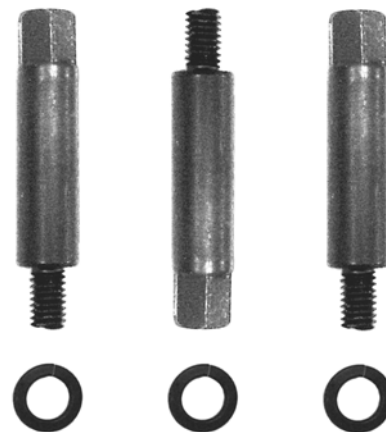

Figure 2
39. Move the hands in an alternate motion from back to front as the work continues through the cut. Never pass the hands directly over the cutter knife. As one hand approaches the knives remove it from the stock in an arc motion and place it back on the stock in a position beyond the cutter knife (Fig. 2).
1. Place bed assembly (A) on top of stand (B). Be sure the identification label (C) on the bed faces the same direction as the switch (D) on the stand.
2. Line up two holes in the stand top (E) with holes in the bed assembly by viewing through the access door in rear side of the stand.
3. Attach stand to bed assembly by using two 3/8" lock bolts and lock washers (Figure 2). Hand tighten only at this time.
4. Line up the third hole in the stand (F) with the hole in the bed assembly by viewing through the dust chute (G).
5. Install the third 3/8" lock bolt and lock washer through the dust chute (G) to secure the bed to the stand.